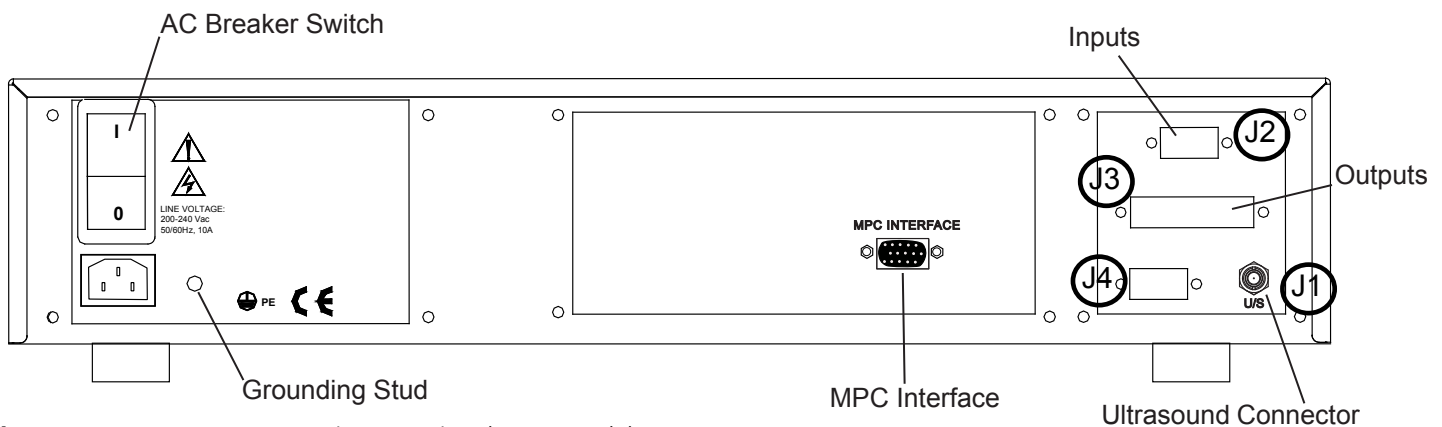

Figure 10-5 Generator Rear View - Optional MPC Model
Step 5. MPC I/O - MPC control/input signals and status output signals are carried in the I/O cables that should already be connected - See Inputs (J2) and Outputs (J3) in Figure 10-5.
Step 6. MPC INTERFACE - Attach one end of the MPC Interface cable (Dukane # 200-1408-XX) to the MPC Interface connector on the *iQ* generator panel - MPC INTERFACE in Figure 10-5. Connect the other end of the cable to the MPC INTERFACE connector on the right rear of the MPC module.